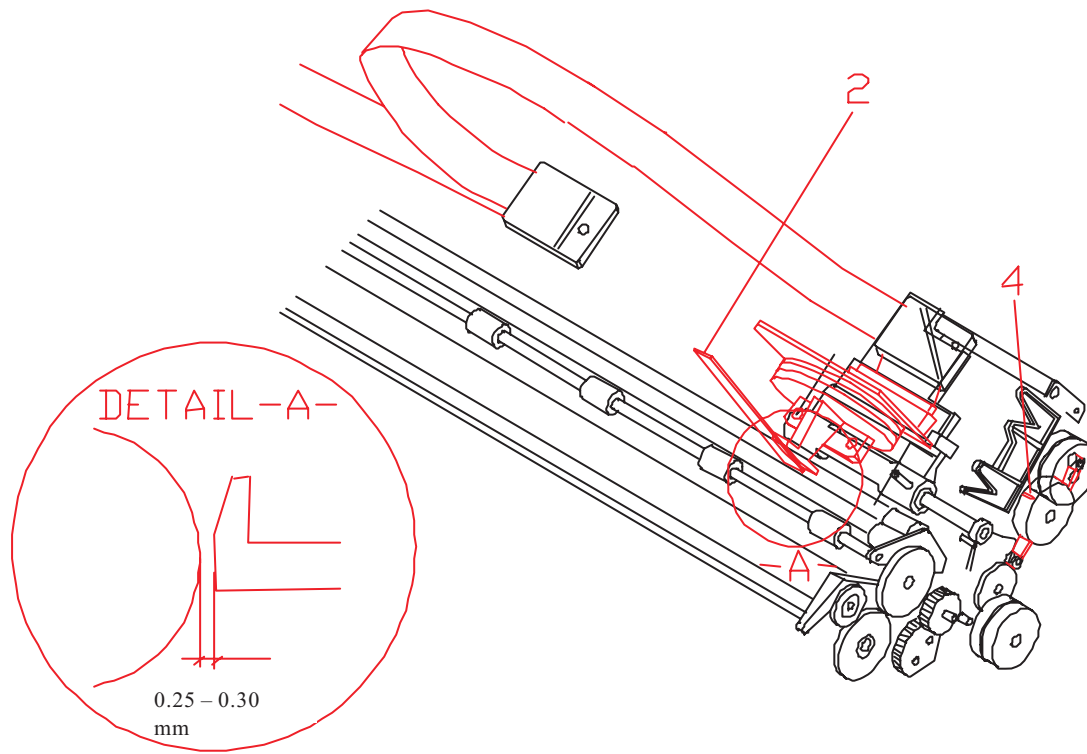

Figure 32. Print Head Gap Adjustment
6. If the printer does not have reference colored points, verify (with the feeler gauge) that the distance between the print head and the platen is included in the range 0.25 - 0.3 mm in any carriage position (item 2 of Figure 32 on page 94).